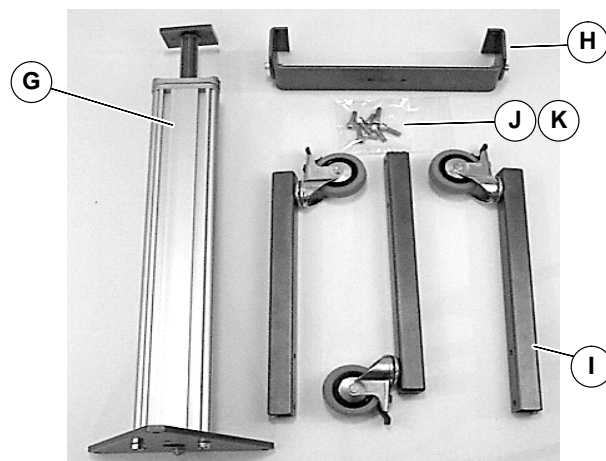

Figure 4
1. Gather components (Figure 4).